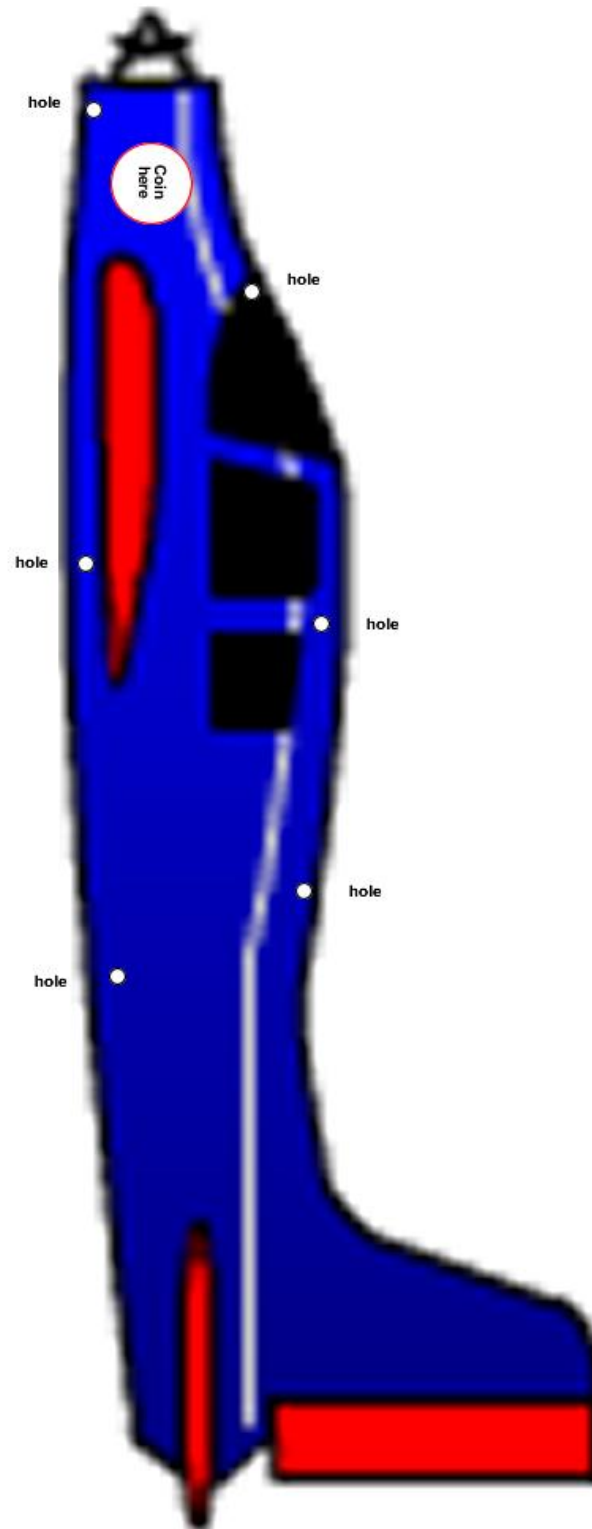

Figure 22
1. Draw a picture of an aeroplane, similar to the one in Figure 22, on a piece of stiff paper or cardboard. Make the picture at least several inches long (larger is better.)